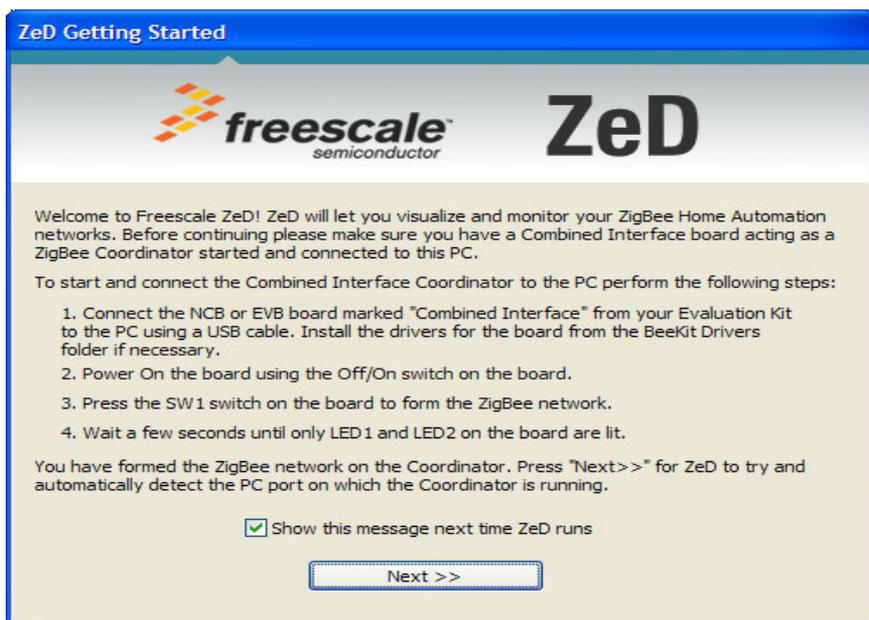

Figure 5. ZeD Getting Started Message
2. If ZeD is started for the first time, it displays a short introduction message on how to connect the ESP board (ZigBee Coordinator) to the PC as shown in Figure 5.